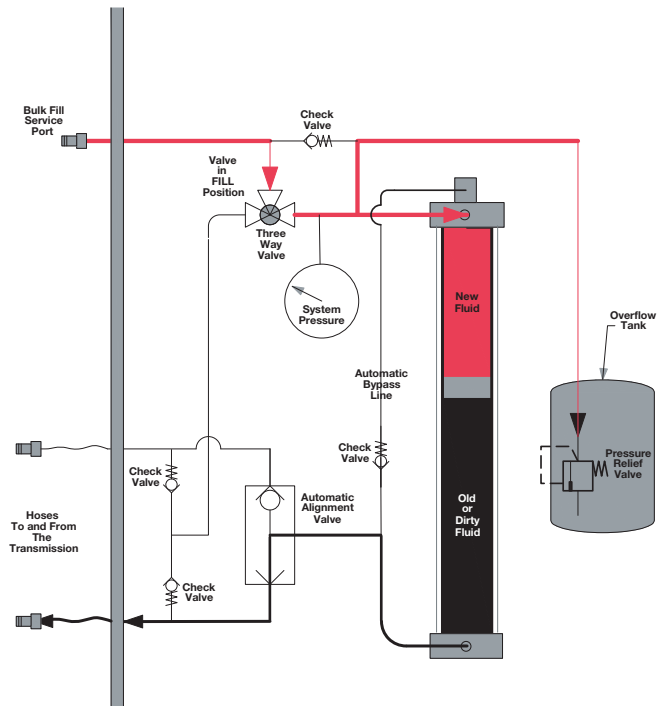

Figure 39. Flow Direction From A Bulk Dispenser Gun
6. Press the trigger on the bulk dispenser gun. The flow direction for filling new fluid from a bulk dispenser gun is shown in Figure 39.